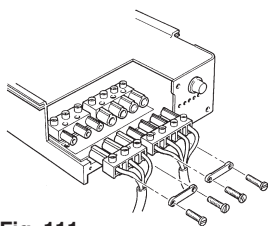

Fig. 111
3. Release the mains cables from the cable clamps and unplug the mains connection blocks from the circuit board (Fig. 111).